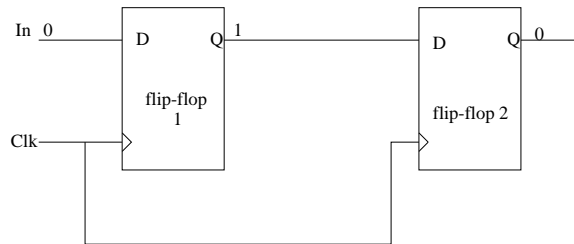

Fig. 1. Cascaded flip-flops
- The *propagation delay* of a positive edge triggered D-type flip-flop is defined as the time delay between the positive edge of the clock and the corresponding change in the output value (Q). Consider the circuit shown in Fig. 1. It shows two cascaded D flip-flops implementing a shift register. The propagation delay of flip-flop 1 is 5ns, and the hold time of flip-flop 2 is 13ns. Assume that flip-flop 1 is preset to initial value **1** and flip-flop 2 is reset to initial value **0**. The value at the D-input of flip-flop 1 is **0**. Given the hold time and propagation delays, would the shift register work correctly? Why or why not? Feel free to demonstrate your answer using a timing diagram.